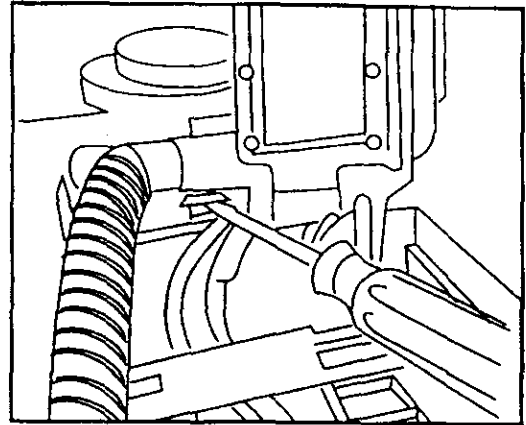

Fig. 12
Recovery at the upholstery tool is shown in Fig. 12. With the handle in the storage position the pump runs, and the valve to the floor is closed diverting all suction to the upholstery tool.
- a. Flex tab (Fig. 12) to free hose connection to valve.